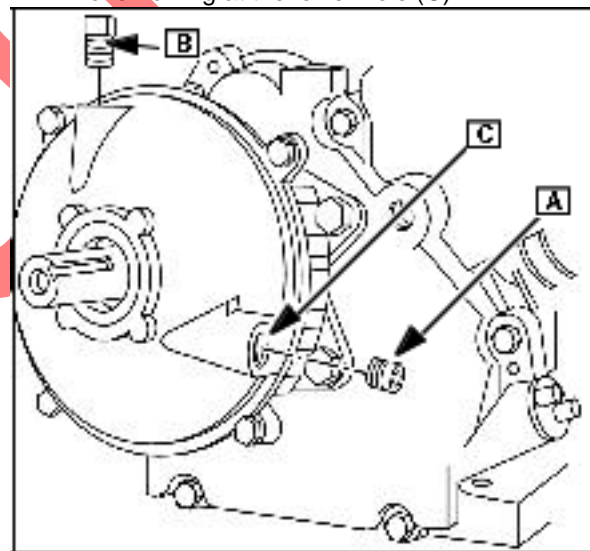

Fig. 30
To fill gear case, remove oil level plug ([A] Fig. 30) and oil fill/vent plug (B).